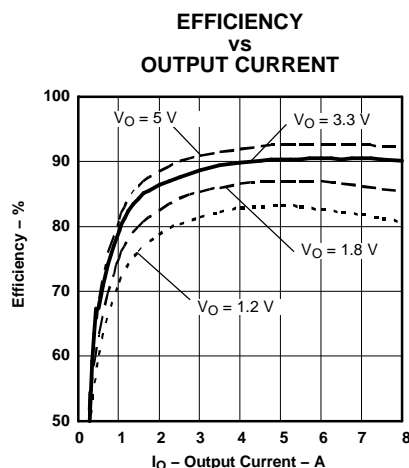
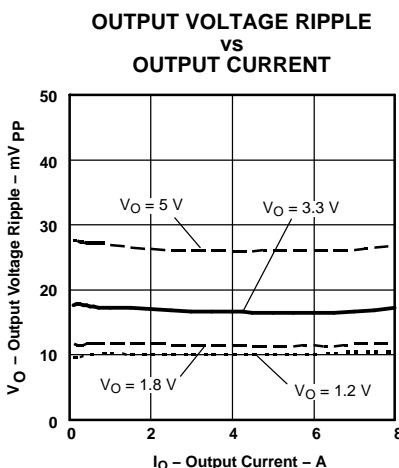
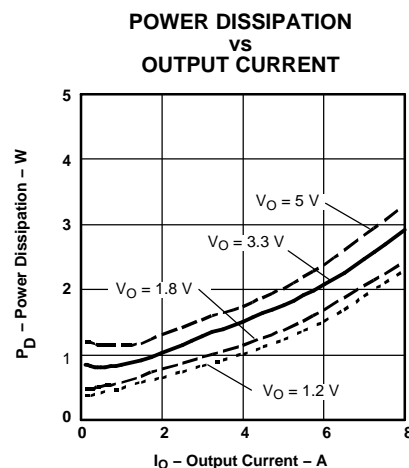

Figure 1.
Figure 2.
Figure 3.
- (8) The electrical characteristic data has been developed from actual products tested at 25°C. This data is considered typical for the converter. Applies to Figure 1, Figure 2, and Figure 3.